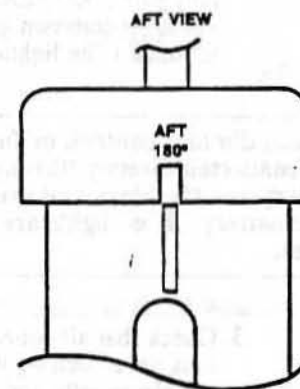

Figure 4B. Alignment of wind vane dust shield.
- B. Hold the dust shield in place. Then, if the staff will be installed pointing aft as recommended, mount the vane on top of the dust shield pointing over the staff (see Figure 4B). If the staff will point to the box, the vane must point to the bow.